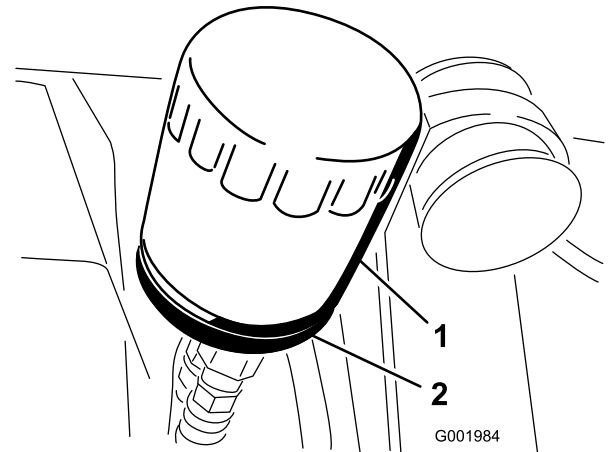

Figure 48
- Remove the oil filter (Figure 48).
- Install the replacement oil filter to the filter adapter. Turn the oil filter clockwise until the rubber gasket contacts the filter adapter, then tighten the filter an additional 1/2 turn (Figure 48).